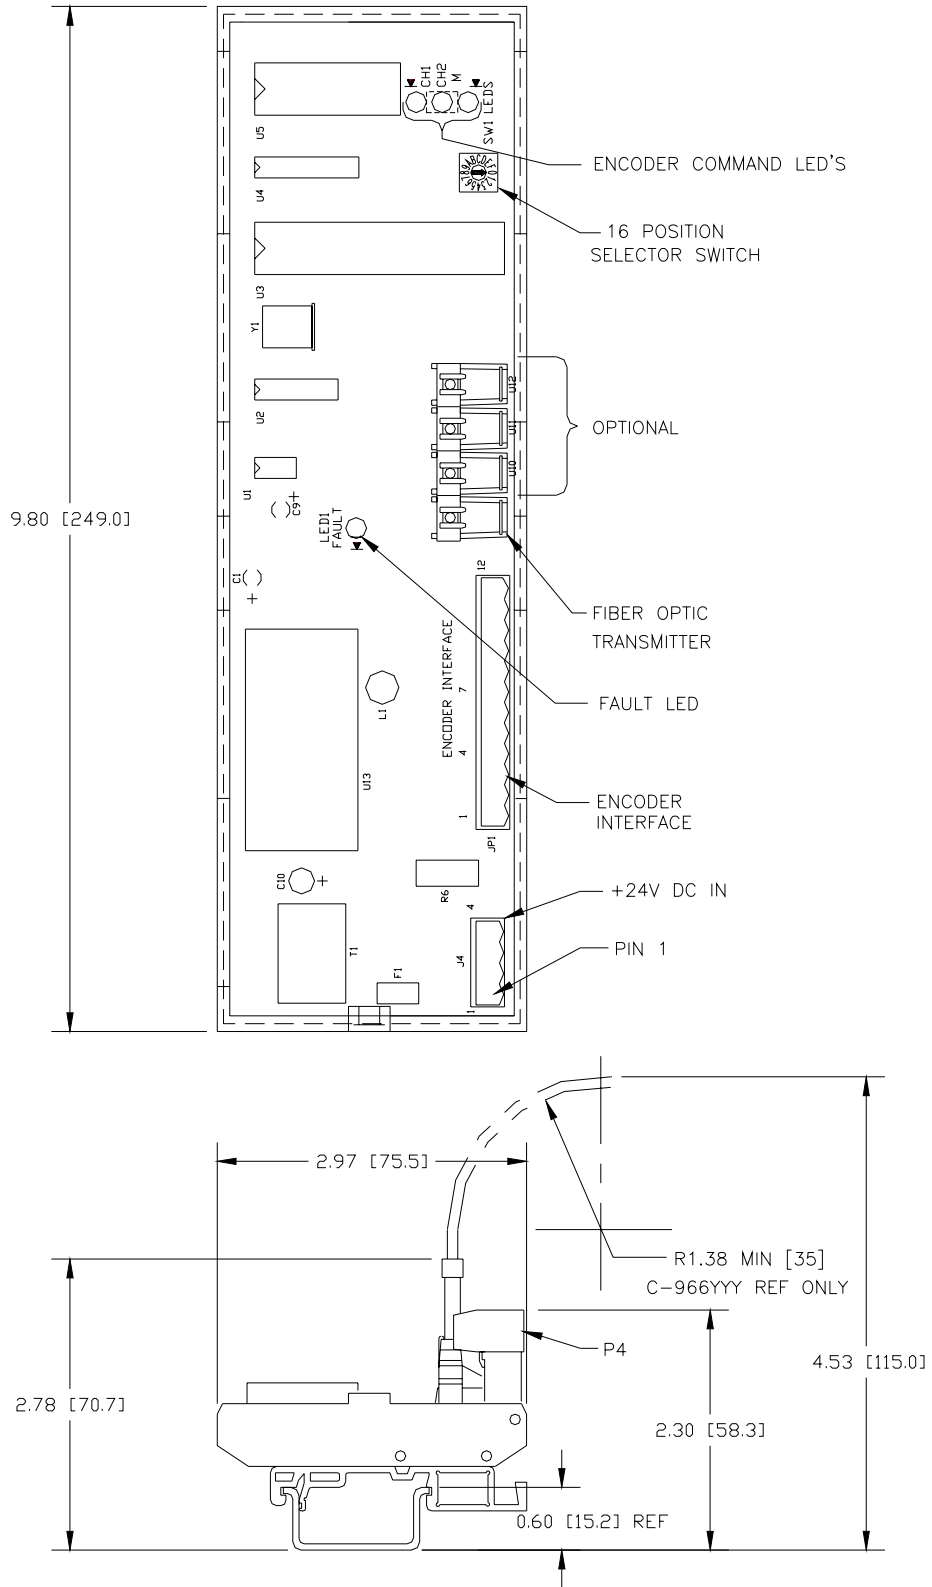

Figure 2 - EFC-240X Layout
9. With the 12-pin connector P1 connected to the EFC-240X, connect the meter leads to P1-1 and P1-2 (see **Figure 2**).